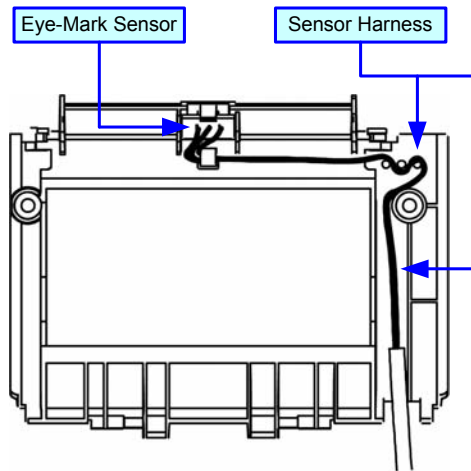

Figure 7-8c, Eye-Mark Sensor Replacement
- 6 Insert the replacement eye-mark sensor to the inner cover and route the sensor harness (Figure 7-8c).